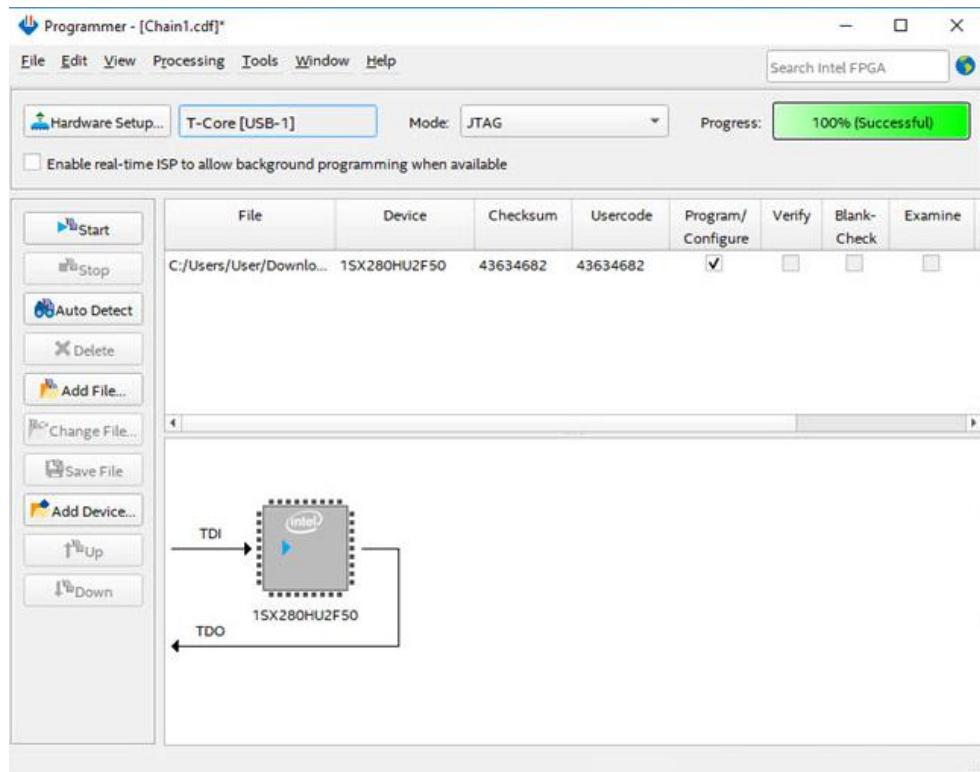

Figure 5-7 Using T-Core board to program the DE10-Pro
6. Select a .sof of the DE10-Pro project and download it. shows the success of the T-Core program Stratix 10 FPGA, as shown in **Figure 5-7**.